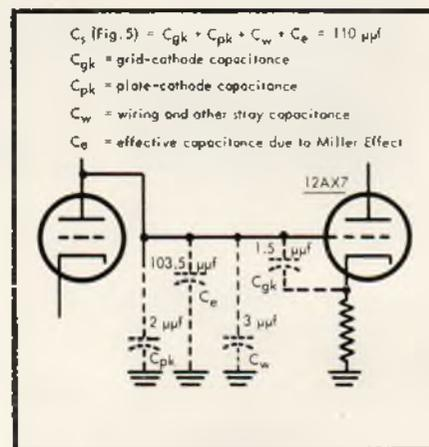

Fig. 6. Interstage coupling capacitance of a typical triode stage.
Is it likely that  $C_s$  will be as great as 170  $\mu f$ ? Generally not. Figure 6 shows that  $C_s$  for a 12AX7 might consist of (1) grid-cathode capacitance of about 1.5  $\mu f$ ; (2) the preceding tube's plate-cathode capacitance of about 2  $\mu f$ ; (3) wiring and other stray capacitance assumed to be 3  $\mu f$ ; (4) a large capacitance due to Miller Effect (discussed later in detail), which may be somewhat over 100  $\mu f$  for a tube such as the 12AX7 under normal conditions. All told, there is a shunt capacitance of about 110  $\mu f$ , appreciably less than the 170  $\mu f$  that would barely avoid trouble at the high end.